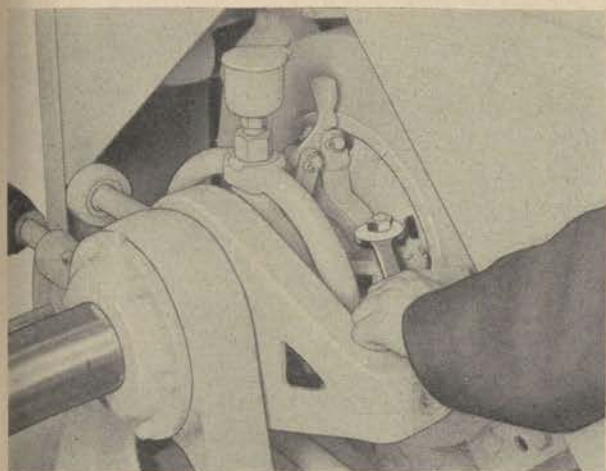

Figure 226. Adjusting flywheel clutch.
(3) *Adjusting the clutch.* Set the lever to the disengaged position (lever towards fuel tank). Loosen the nut on the adjusting collar clamp bolt and turn the adjusting collar a few degrees in a clockwise direction, then tighten the clamp bolt (fig. 226) before testing for correct adjustment.